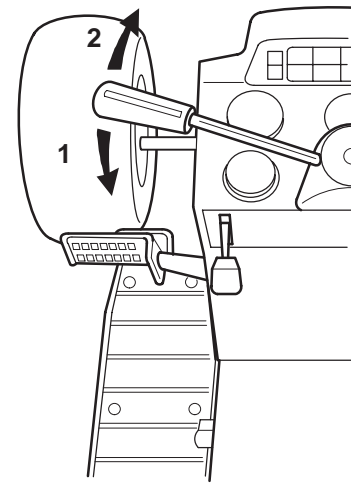

Figure 21
The attachment power lift (Fig. 21) is used to raise and lower attachments.
2. Pull the lift lever in the **up** direction to raise the attachment lift (Fig. 21). This will lift and hold the attachment in the up, or raised position.
2. Push the lift lever in the **down** direction to lower the attachment lift (Fig. 21).